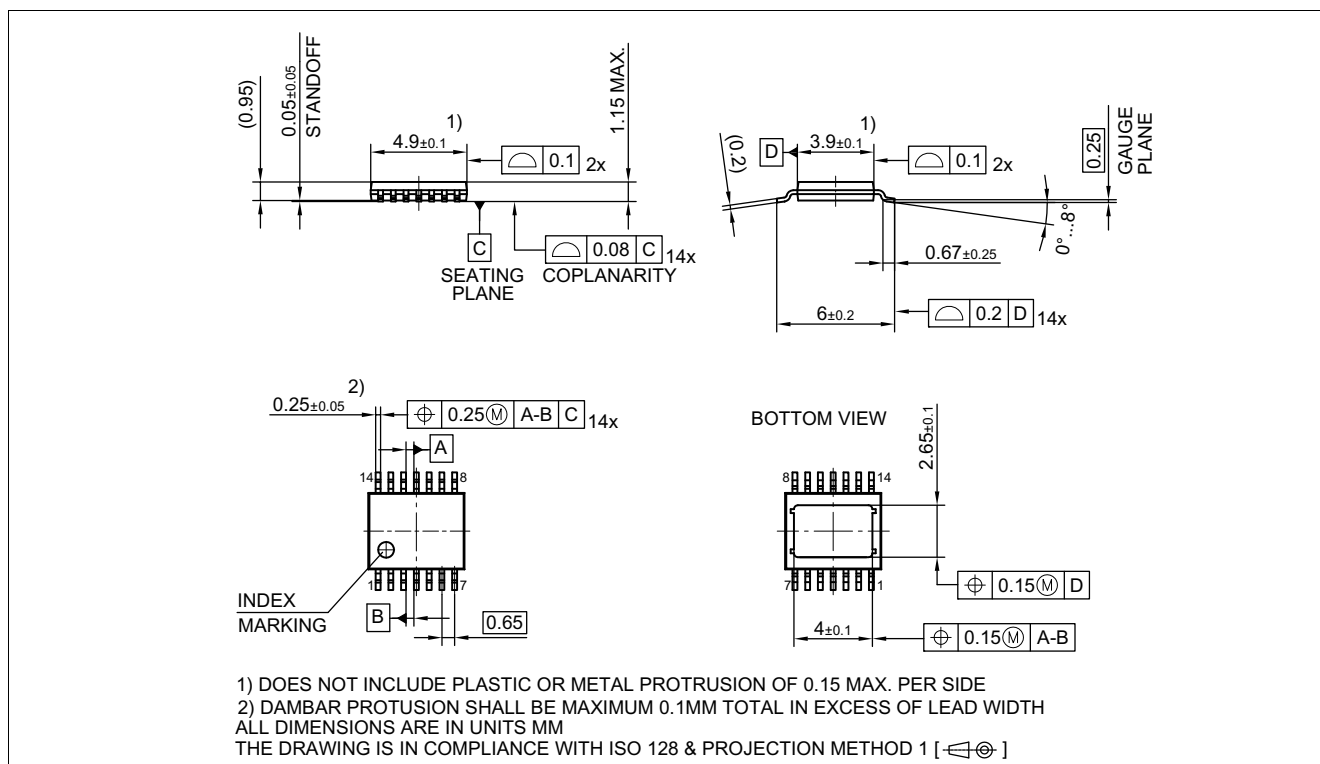
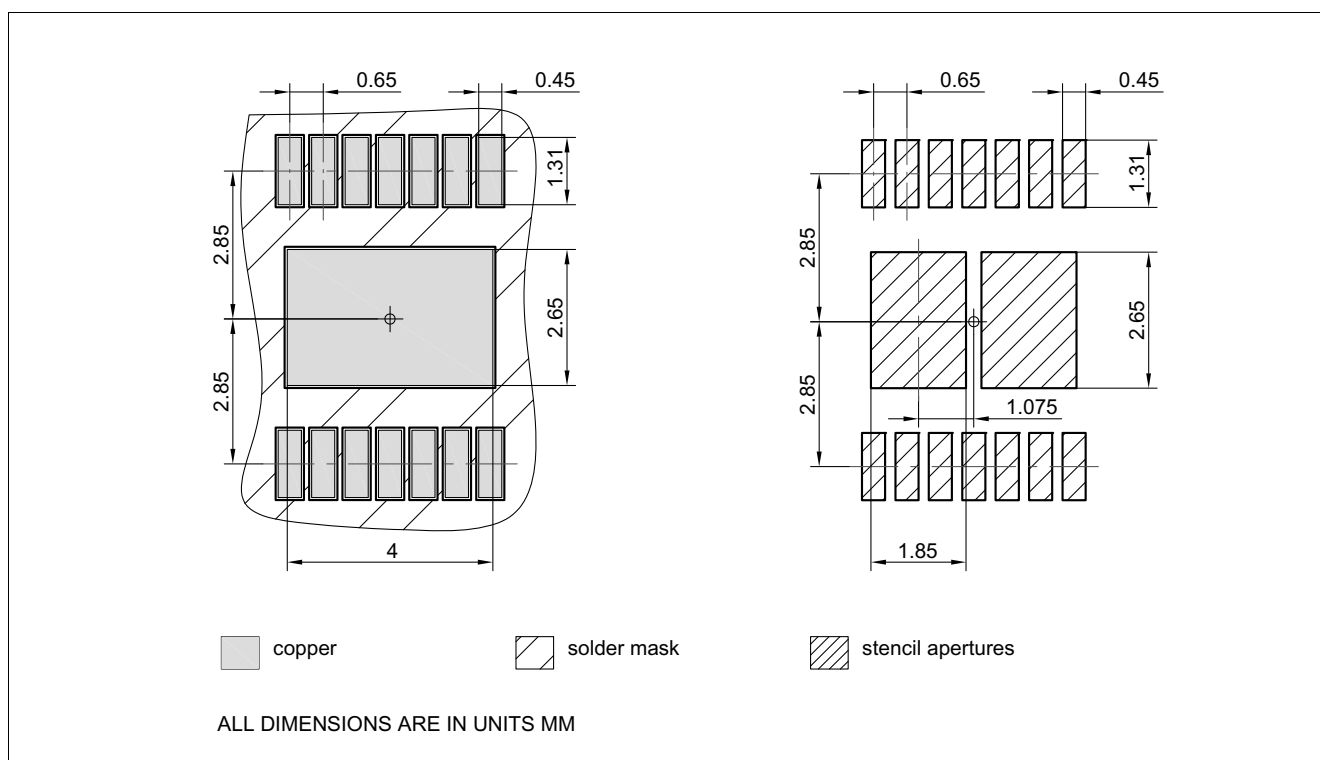

Figure 44 PG-TSDSO-14 (Thin (Slim) Dual Small Outline 14 pins) Package Outline
Figure 45 PG-TSDSO-14 (Thin (Slim) Dual Small Outline 14 pins) Package pads and stencil
1.03 , 2018-10-18	Chapter 9.3.1 updated (typo) Page 1: updated (Package PG-TSDSO-14-22 → Package PG-TSDSO-14) Figure 29 updated Figure 44 updated (PG-TSDSO-14-22 (Thin (Slim) Dual Small Outline 14 pins) Package Outline → PG-TSDSO-14 (Thin (Slim) Dual Small Outline 14 pins) Package Outline) Figure 45 updated (PG-TSDSO-14-22 (Thin (Slim) Dual Small Outline 14 pins) Package pads and stencil → PG-TSDSO-14 (Thin (Slim) Dual Small Outline 14 pins) Package pads and stencil) Table 1 updated ((Symbol: $I_{VS(SLEEP)}$ → $I_{VS(SLEEP_85)}$), (Parameter: Minimum Overvoltage protection ($T_J = 25\text{ °C}$) → Minimum Overvoltage protection ($T_J \geq 25\text{ °C}$)) P_9.6.0.6 updated (Note or Test Condition: removed unnecessary line-break) Chapter 7.4.1 updated chapter title (PROFET → PROFET™) Table 12 updated table title (PROFET → PROFET™) Chapter 8.6.1 updated chapter title (PROFET → PROFET™) Table 16 updated table title (PROFET → PROFET™) Chapter 9.5.1 updated chapter title (PROFET → PROFET™) Table 21 updated table title (PROFET → PROFET™) P_4.1.0.21, P_4.1.0.22, P_4.1.0.23, P_4.1.0.24 updated (footnote ESD standards) Table 1 updated ($R_{DS(ON)} \rightarrow R_{DS(ON_150)}$), ($V_{DS(CLAMP)} \rightarrow V_{DS(CLAMP_25)}$) Chapter 8.5.2 updated phrasing P_7.5.2.14 Table subheading "Switching Energy" added P_7.5.2.15 Table subheading "Switching Energy" added Chapter 6.4 added conditions Chapter 7.5 added conditions P_7.5.2.14 updated (Test condition: add "See Figure") P_7.5.2.15 updated (Test condition: add "See Figure") Chapter 8.7 added conditions Chapter 9.6 added conditions P_9.7.2.27 updated (Test condition: add "See Figure") P_9.7.2.29 updated (Test condition: add "See Figure") Chapter 7.3.1 typo corrected (link to Figure 19 added)